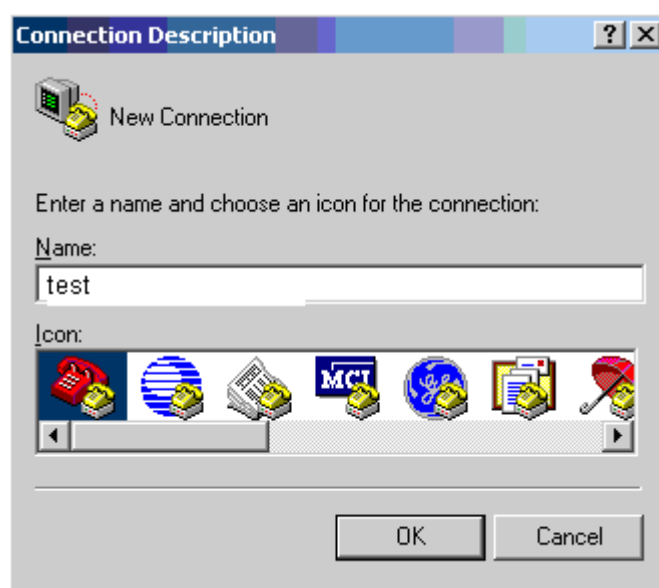

Figure 4-5 “Connection Description” interface
- Step 1: Enable the PC (or laptop), select **Start > All Programs > Accessories > Communication > HyperTerminal**, and click  to set up the new connection as shown in Figure 4-5. If it is the first time to set the Hyperterminal, the system displays the interface of **Location Information**, as shown in Figure 4-3. Fill in according to the red indication in the figure and click **OK**.